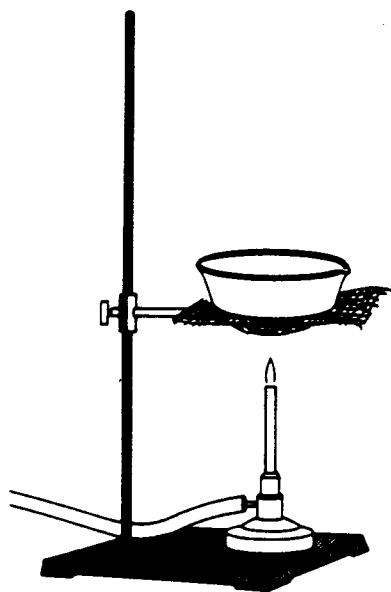

Figure 37.1. Heat the test solution to a moist residue
1. **Oxidation of Tin and pH Adjustment.** To 2 mL of test solution in an evaporating dish—either the supernatant from Experiment 36, Part B.2 or a solution containing the four test cations—add 10-15 drops of 6 M HNO₃ (Caution!). Heat until a moist residue remains (Figure 37.1). Cool and add 1 mL of water. Add drops of 6 M NH₃ (Caution!) until the solution is basic to litmus.² Now make the solution acidic to litmus with drops of 6 M HCl; then add 2 more drops. This should adjust the pH of the solution to about 0.5. Transfer the solution to a 75-mm test tube. **CAUTION**